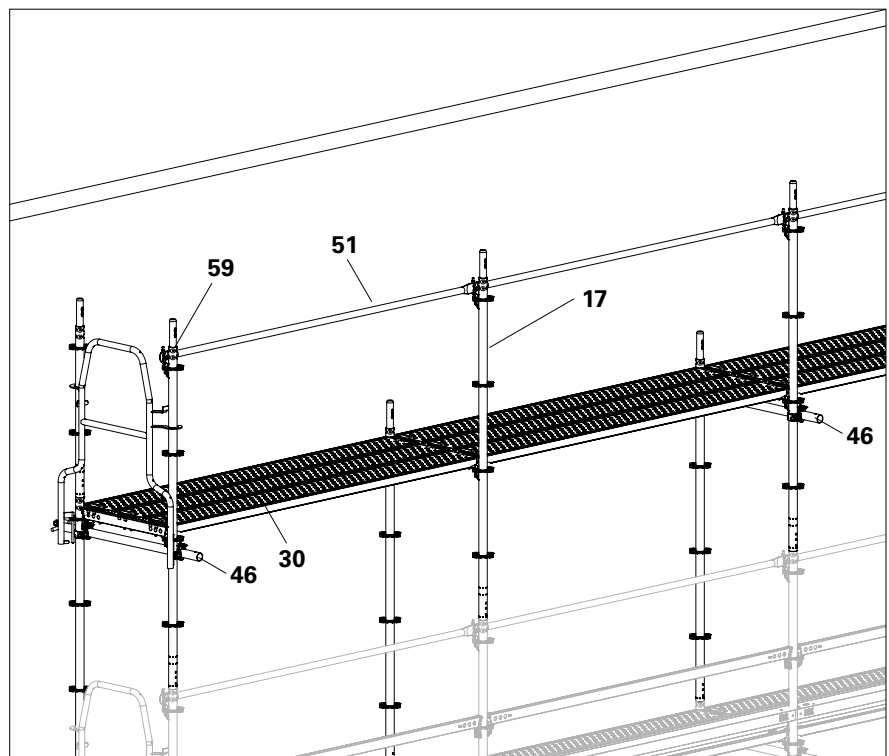

Fig. C2.02
Assemble top scaffold level with Standards UVR-2 200 (17) and Guardrail Post in Advance EPG (51). Insert Steel Decks UDG-2 (30). (Fig. C2.02)
- Anchor every second frame column to the inner and outer legs with Wall Ties UWT (46).
- See Section Tie pattern. (Fig. C2.02)